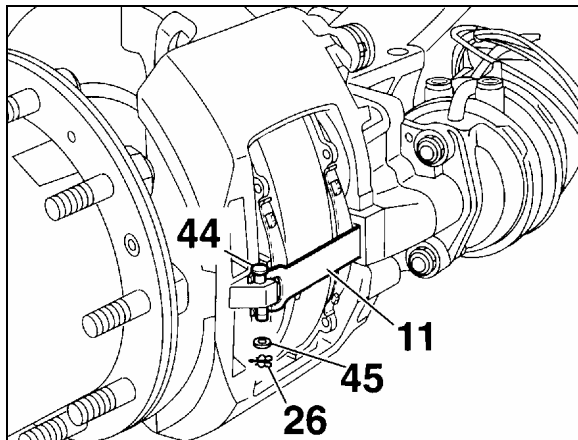

FIGURE 26: CLEARANCE INSPECTION
Remove clip and washer (26 & 45, Fig. 26), push down retainer bar (11), pull out pin (44) and remove retainer bar. Push caliper toward actuator (center of vehicle) for maximum clearance.